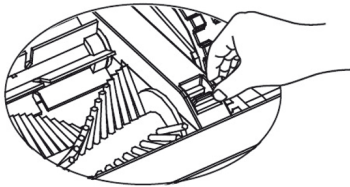

Fig 1
1. Using right thumb, push forward the locking rod and lift up the cover; using left hand, hold the middle hairbrush and lift up (as shown on Fig 1 & 2)